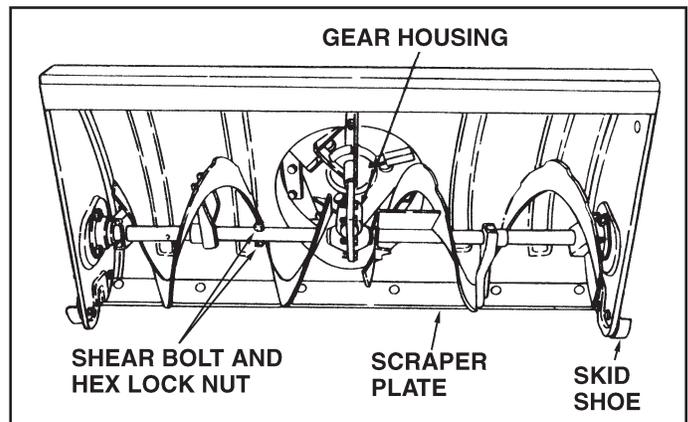

FIGURE 35
2. If the augers will not turn, check to see if the shear bolts have sheared. See figure 35. Two replacement shear bolts and hex lock nuts have been provided with the snow thrower. For future use order part number 710-0890A shear bolt and number 43064 hex lock nut.